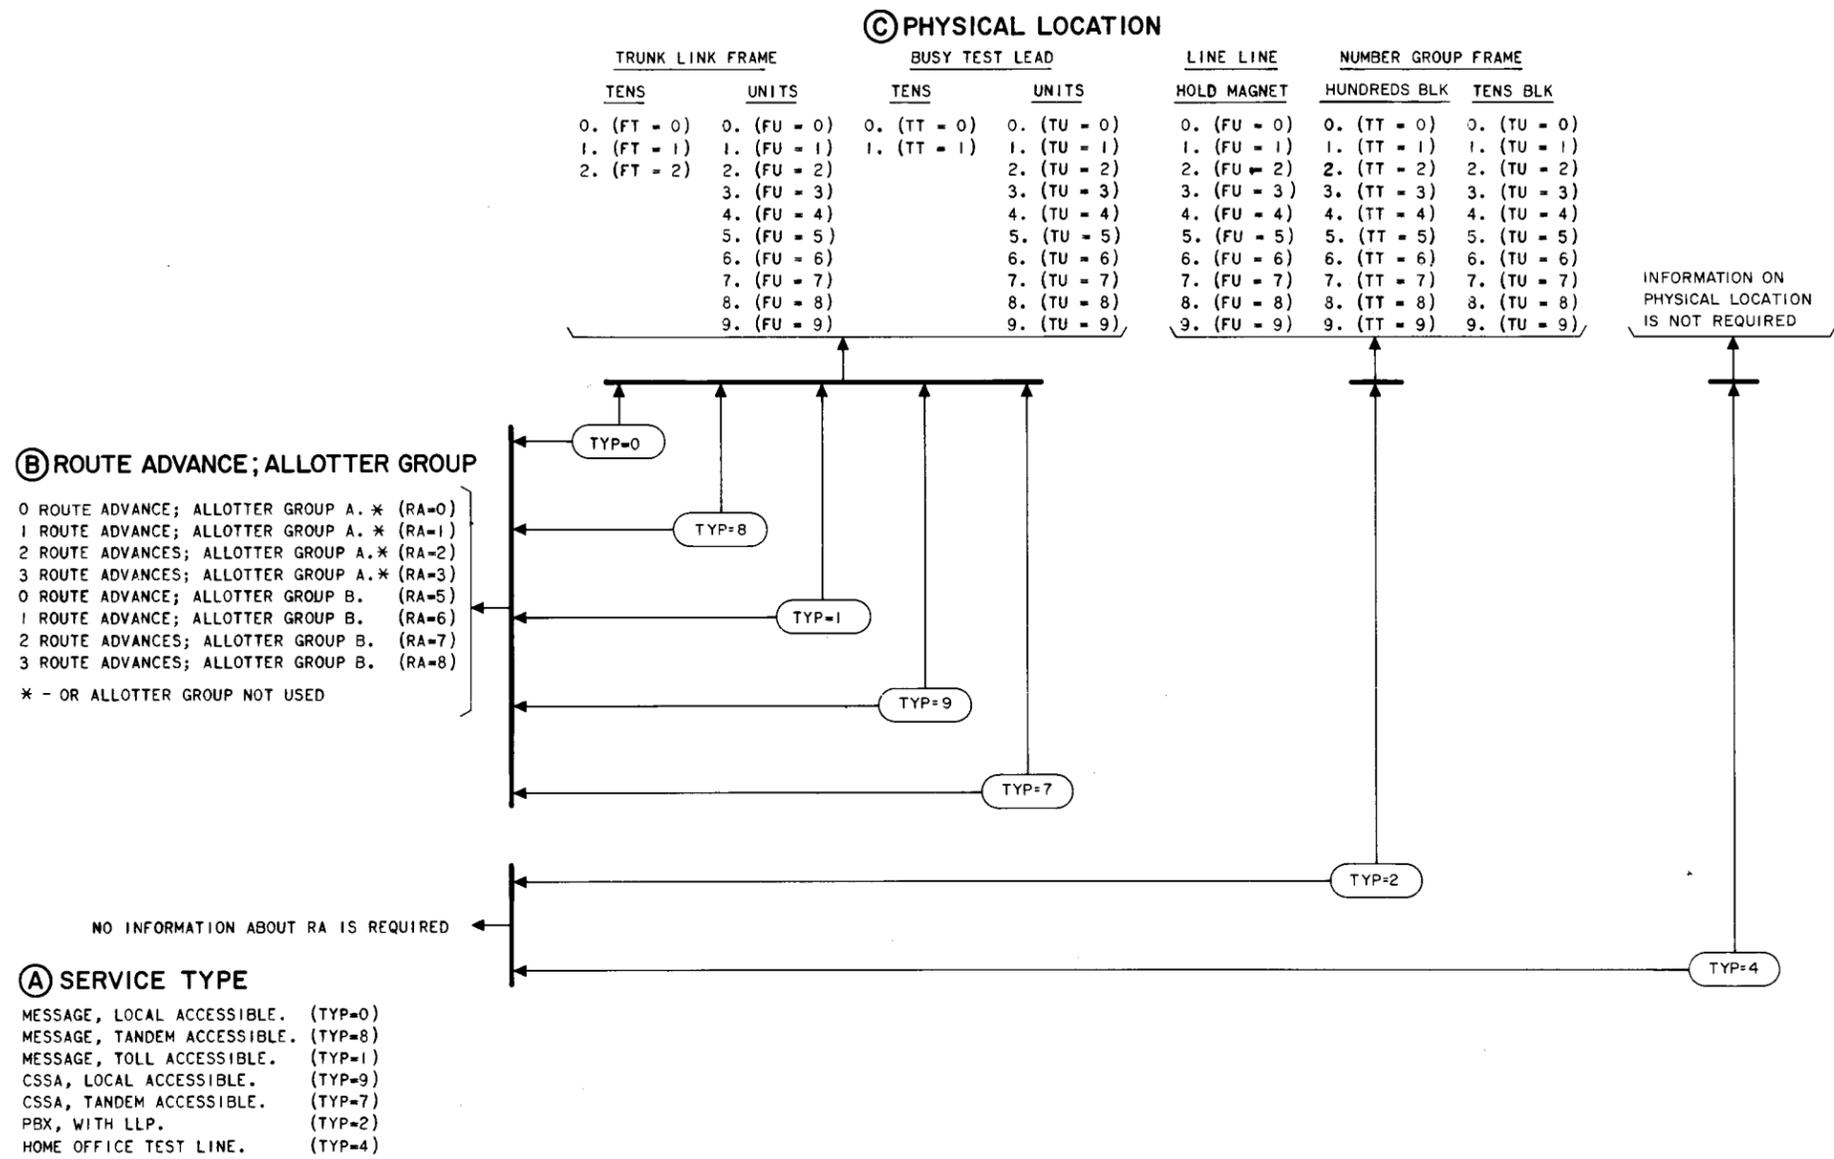

Fig. 3A—Flow Diagram for Use in Determining Particular Trunk Variables
3. PARTICULAR TRUNK LOCATION ADDRESS (FIG. 3A)
3.03 Using the flow diagram shown in Fig. 3A, one can determine the values of the particular trunk variables. The procedure in Chart 2 can be followed when initially using the flow diagram of Fig. 3A to code particular trunk information in the H field of the TMF worksheet.